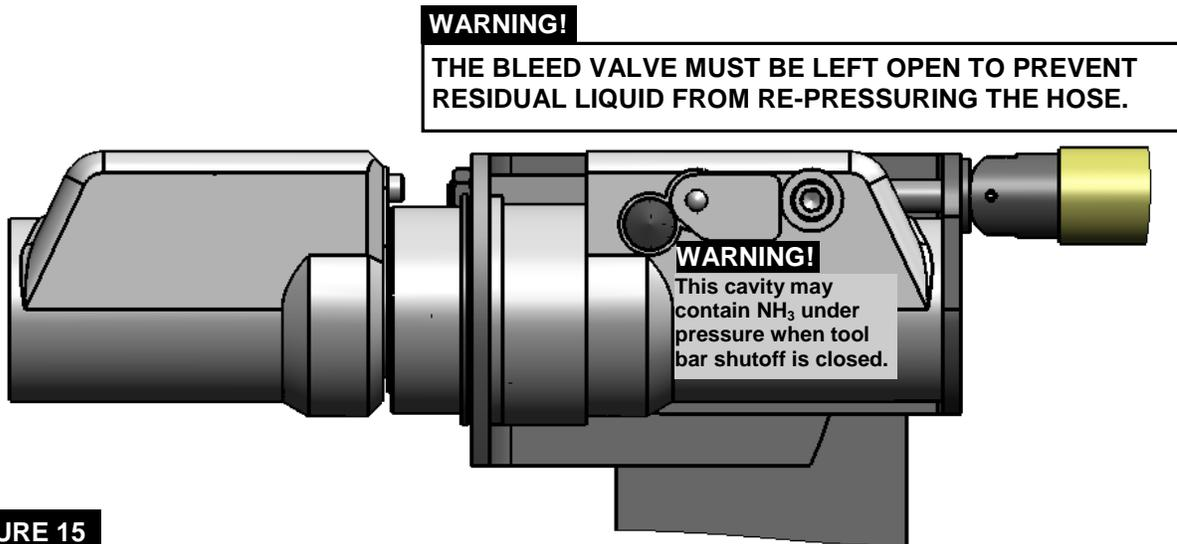
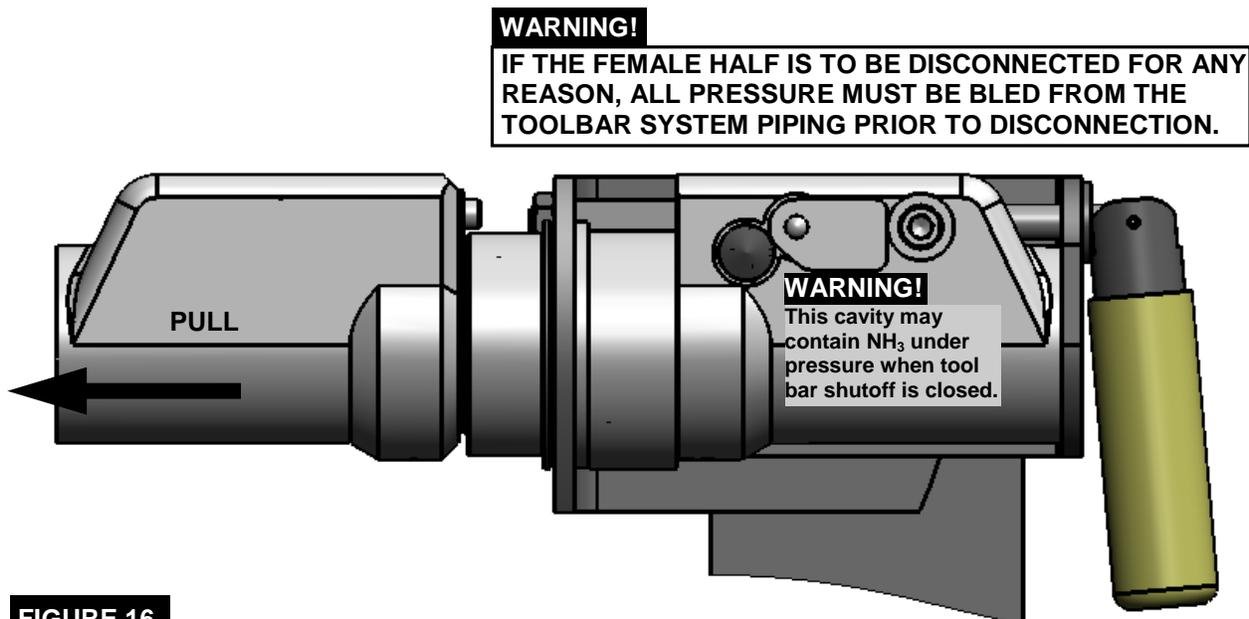

FIGURE 15
FIGURE 16
MANUAL DISCONNECT INSTRUCTIONS (REFER TO FIGURE 15)
3. Screw the EZ Bracket handle in until it is snug with the washer/bracket to engage the handle with the bracket as shown in Figure 15. Actuate the cam action on the handle by pivoting the bracket handle 80-90 degrees as shown in Figure 16.